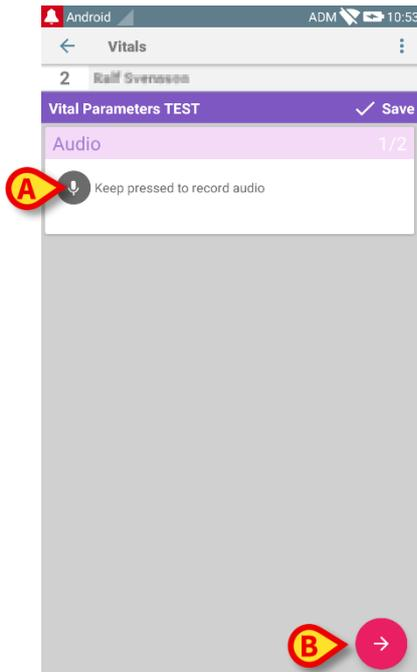

Fig 60
The following screen will open, making it possible to record an audio file (Fig 60).
- keep pressed the button indicated in Fig 60 **A**.
- touch the  icon on the lower-right corner of the screen (Fig 60 **B**).